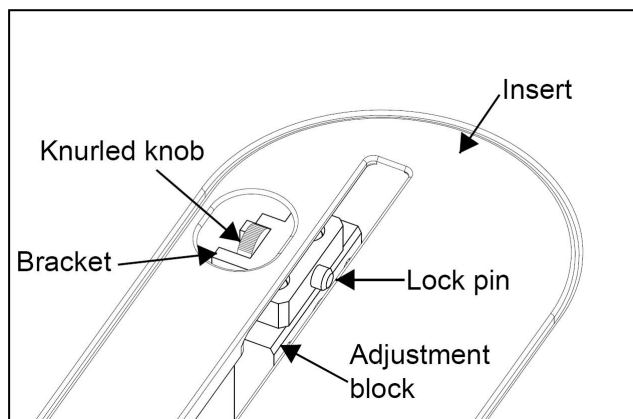

Fig.11
1. Slide the knurled knob out (refer to **Fig.11**) and rotate it forward so it engages the upper bracket.